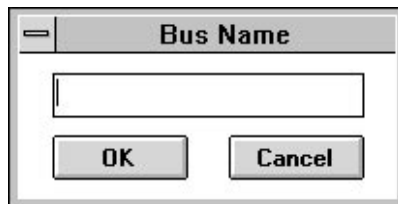

Figure 1-37. Bus Name Window.
- ☐ When the **BUS Name** window appears (Figure 1-37), enter the new bus name and click on the **OK** button